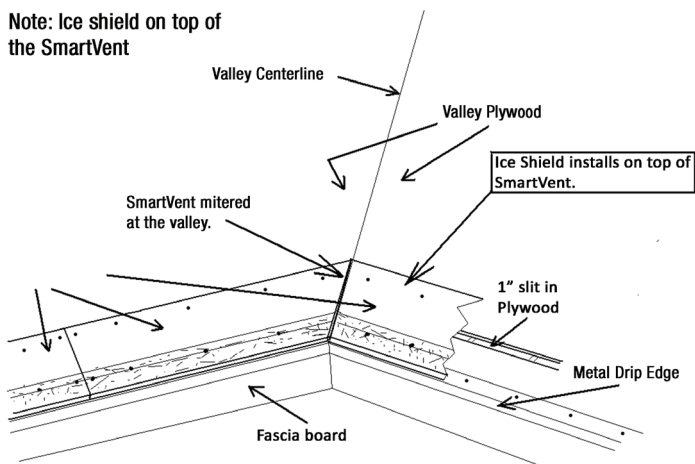
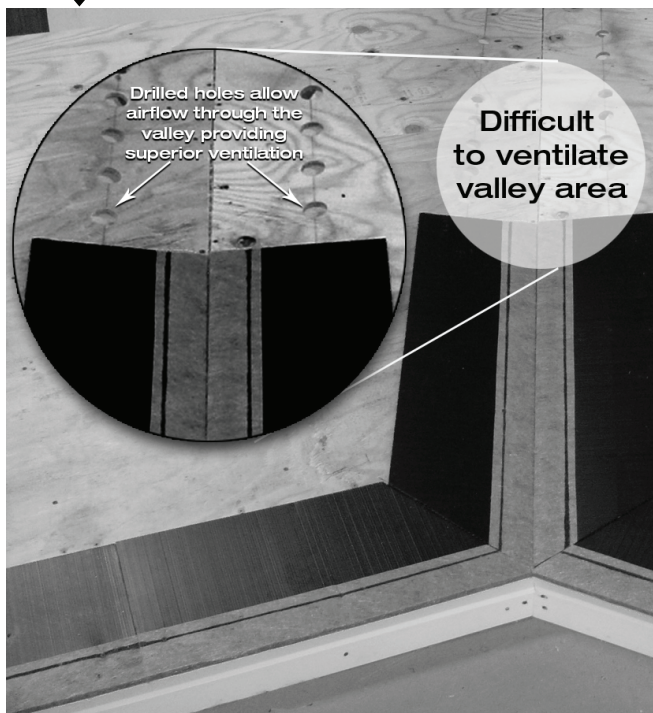

Figure 1
Figure 2
Decide if you will miter (Figure 1) or vent the valley (Figure 2). If miter skip to Step 4 and see Figure 1.
STEP 3: Install one SmartVent™ with the smooth side up and the thick edge toward the valley. Install a second SmartVent on the opposing side matching the thick edges together at the centerline. Install with eight nails, four along the upper edge and four along the lower edge of each SmartVent™ piece. Angle cut the SmartVent™ as shown in Figure 2.